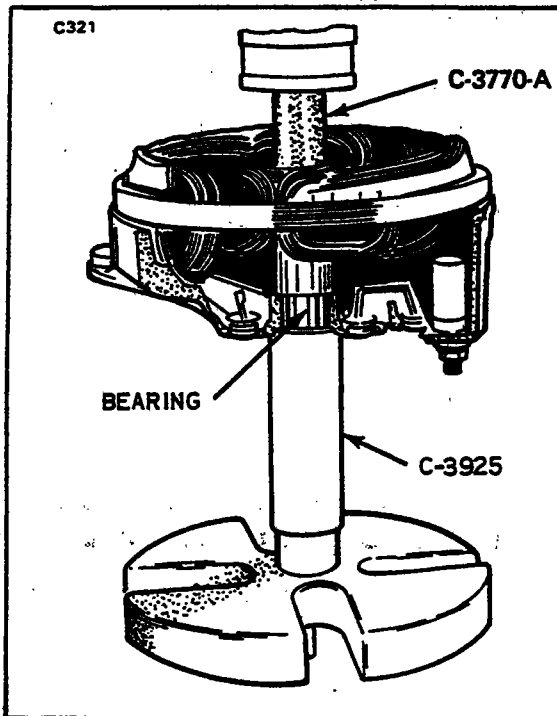

Figure 11-28. Removing End Bearing
**11-58. REMOVING NEEDLE BEARING FROM END SHIELD.** (Refer to Figure 11-28.) If inspection indicates that the needle bearing is faulty, it may be replaced.